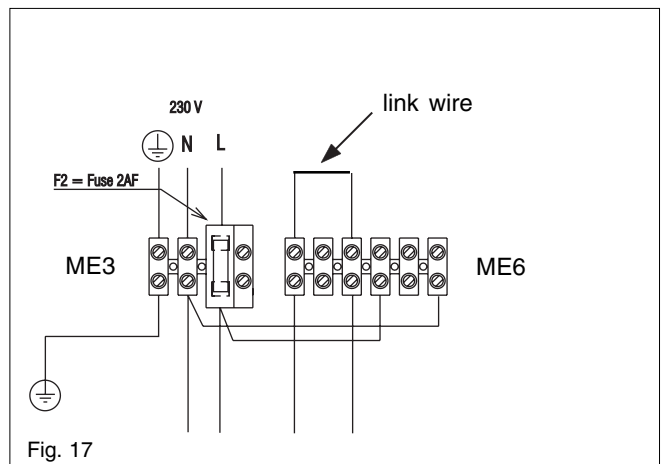

Fig. 17
4.7.3 CONNECTING THE MAINS (230V) INPUT (see fig. 17)
Connect the supply cable wires (LIVE, and NEUTRAL) to their corresponding terminals on the appliance terminal block. Connect the EARTH wire to the EARTH block (see fig. 17) ensuring that it's left slightly longer than the others, this will prevent strain on the EARTH wire should the cable become taut.